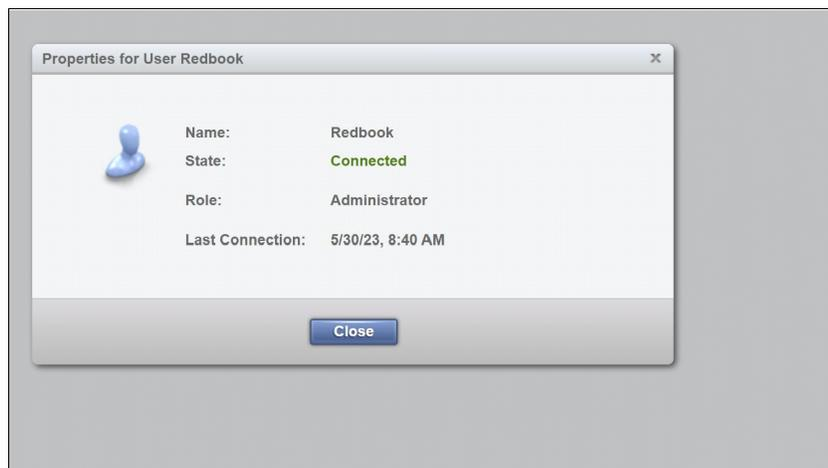

Figure 5-102 User properties
- ▶ **Properties:** This option displays the properties of the user, the state of the user, and the user's last connection, as shown in Figure 5-102.